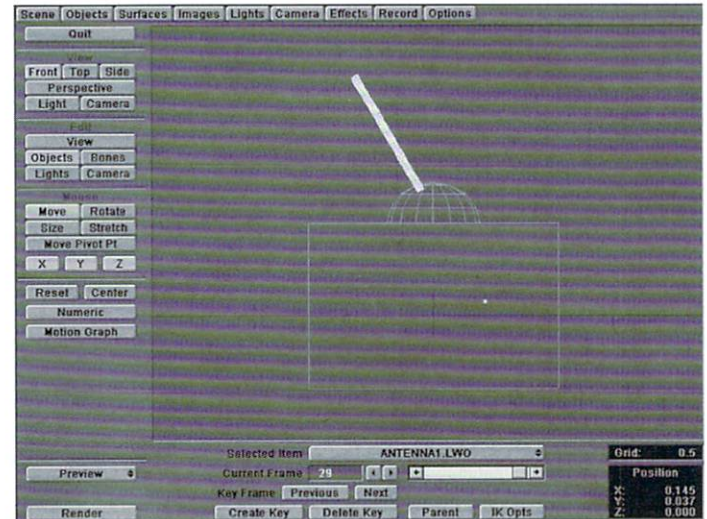

Figure 14: Positioning the antenna on the TV set.
- Select Antenna1.lwo as the current object and parent it to the TV set object. Once that's done, use the Front and Side views to move the antenna to its place on the antenna stand (Figure 14). Keyframe this, making sure, of course, that your current frame is 0.
- In the Objects panel, select Antenna1.lwo as the current object and Antenna2.lwo as its Metamorph Target, and then click on the Envelope button (E) by the Metamorph Amount requester.